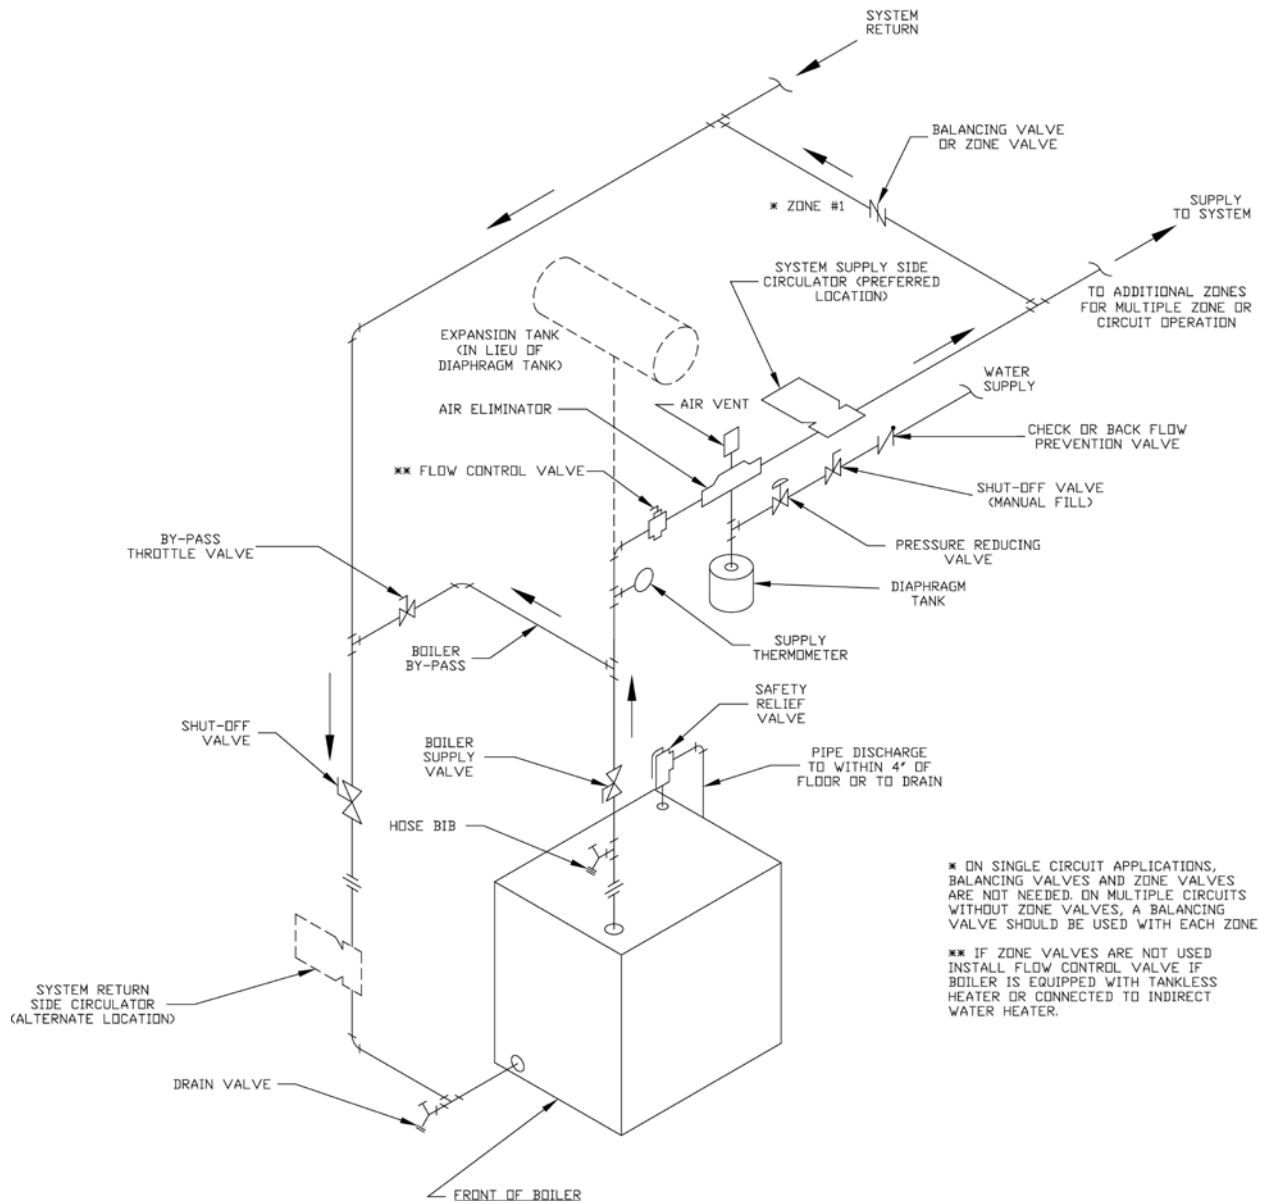

Figure 4: Recommended Boiler Piping for Series Loop Hot Water System
2. Thread relief valve onto factory installed ¾" NPT x 7/4" nipple located in left rear corner on top of boiler as shown in Figure 1a or 1b. Valve spindle must be in vertical position. Tighten with wrench. Pipe discharge as shown in Figure 4. Installation of the relief valve must be consistent with ANSI/ASME Boiler and Pressure Vessel Code, Section IV.
2. See Figure 4 FOR PIPING. Also, consult Residential Hydronic Heating Installation and Design I=B=R Guide.
Install a pipe tee between the circulator and boiler return along with a second tee in the supply piping as shown in Figure 4. The bypass should be the same size as the supply and return lines. Locate valves in the bypass and supply outlet as illustrated in Figure 4 for regulation of water flow to maintain higher boiler water temperature.